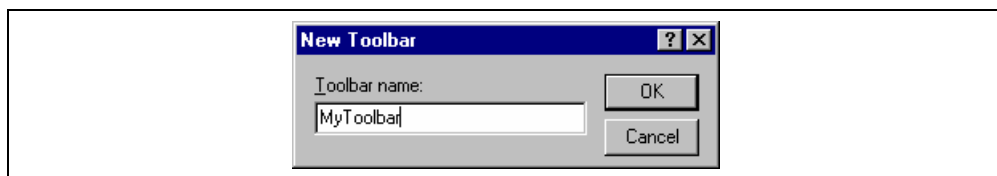

Figure 6.2: New Toolbar Dialog
2. Click the “New...” button. The dialog shown in figure 6.2 will be displayed.